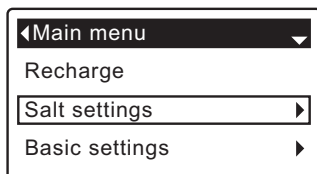

FIG. 32
1. From any of the rolling status screens, press the SELECT (O) button to display the **Main menu**.
2. Press the DOWN (▼) button to scroll through the menu options until **Salt settings** is highlighted (See Figure 32).